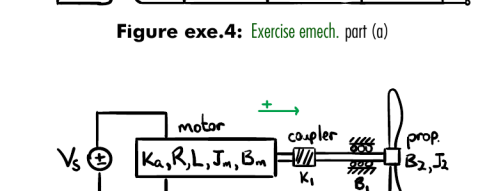

Figure exe.5: Exercise emech, part (b)
- The electromechanical system of Fig. exe.5 with motor model parameters shown, coordinate arrow in green. Model the propeller as a moment of inertia J_2 and damping B_2 .